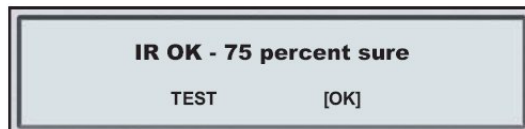

FIG. 30 IR OK – 75 percent sure
- **IR OK – 75 percent sure** - (2 commands were received). Pressing **[OK]** takes user to next IR command to be learned (FIG. 30).